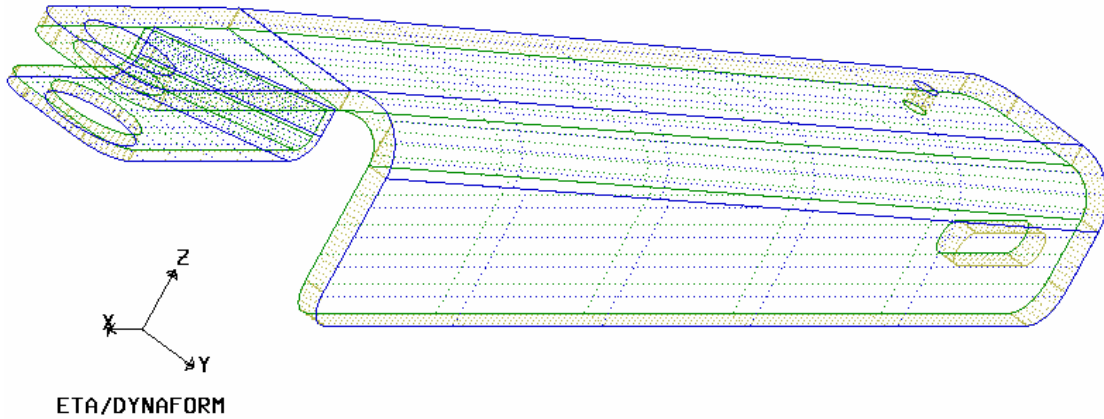

Figure 5.6.18 Result of Grouping
9. Click DONE on Figure 5.6.16 to finish grouping. The result is seen in Figure 5.6.18.